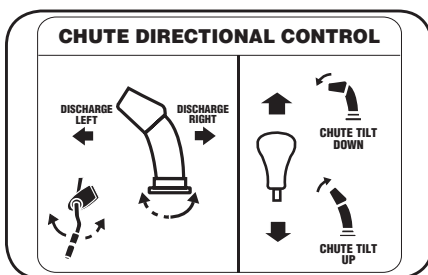

Figure 3-13
The overhead chute directional control is located at the rear of the unit towards the left side under the handle panel. To change direction in which snow is thrown, rotate chute directional control. See Figure 3-13.
- Move the lever forward to pivot the upper chute down and reduce the distance snow is thrown. See Figure 3-13.